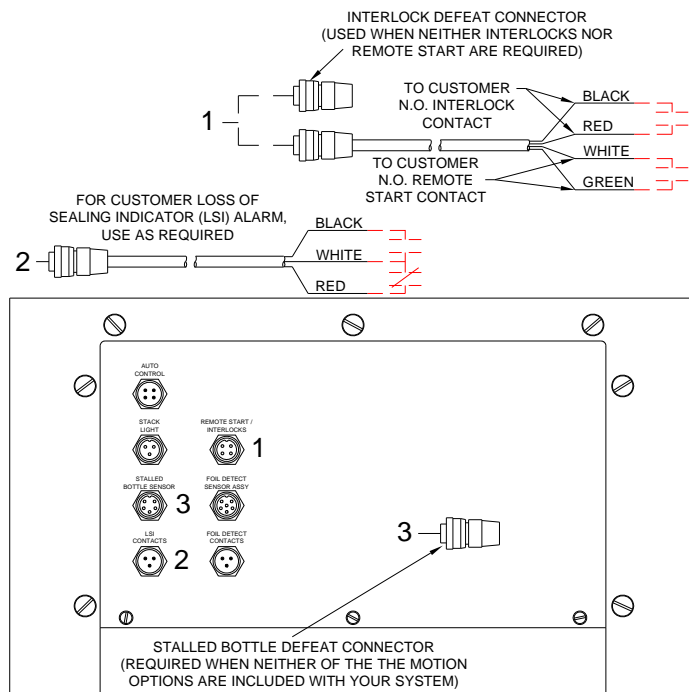

Figure 24
Each *Super Seal™* is supplied with 2 standard cables and 2 defeat connectors. The two cables provided are the Remote Start / Interlocks Cable (1) and the Alarm Connector Cable (2). The 2 defeat connectors are for the **REMOTE START / INTERLOCKS** circuit (1) and **STALLED BOTTLE SENSOR** circuit (3). Both the cables and defeat connectors will connect to the rear panel of the power supply (**Figure 24**).
A cable is provided to extend the wiring of the Remote Start / Interlock cable to external contacts as shown in **Figure 24**. Connect the Remote Start / Interlock cable securely to the rear panel of the power supply and run the open end of the cable to your N.O. dry contacts. Ensure you use the Black and Red wires for the Interlock function and the White and Green wires for the Remote Start function. The Remote Start function is tied to the **LOCAL/REMOTE** pushbutton located on the front panel of the unit.
As shown in **Figure 24** on **Page 13**, a contact cable is provided to extend the alarm contacts to your alarm or monitoring circuit. The alarm contacts consist of a Common (COM), Normally Open (N.O.) and a Normally Closed (N.C.) contact. The contact cable connects to the LSI CONTACTS connector on the rear panel of the power supply and the open end of the contact cable can be run to your external alarm or monitoring circuit.